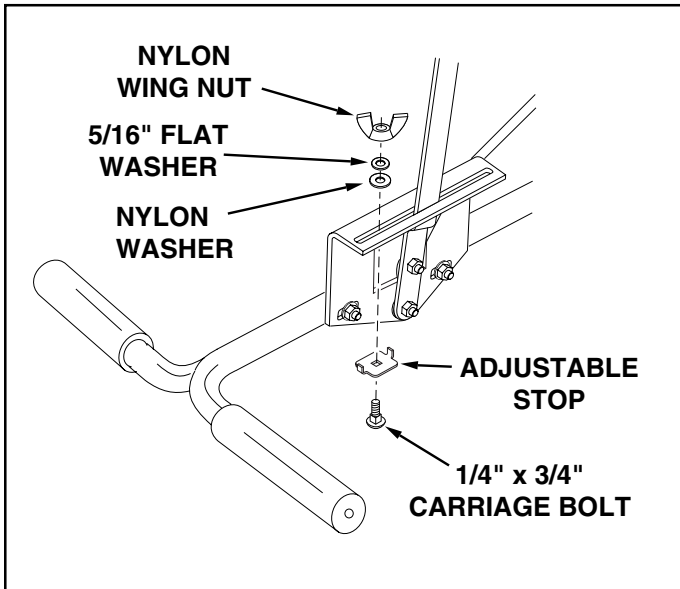

FIGURE 11
22. Place the adjustable stop into the "ON" end of the slot in the top of the flow control mounting bracket. Secure with the 1/4" x 3/4" carriage bolt, a nylon washer, a 5/16" flat washer and the nylon wing nut. See figure 11.